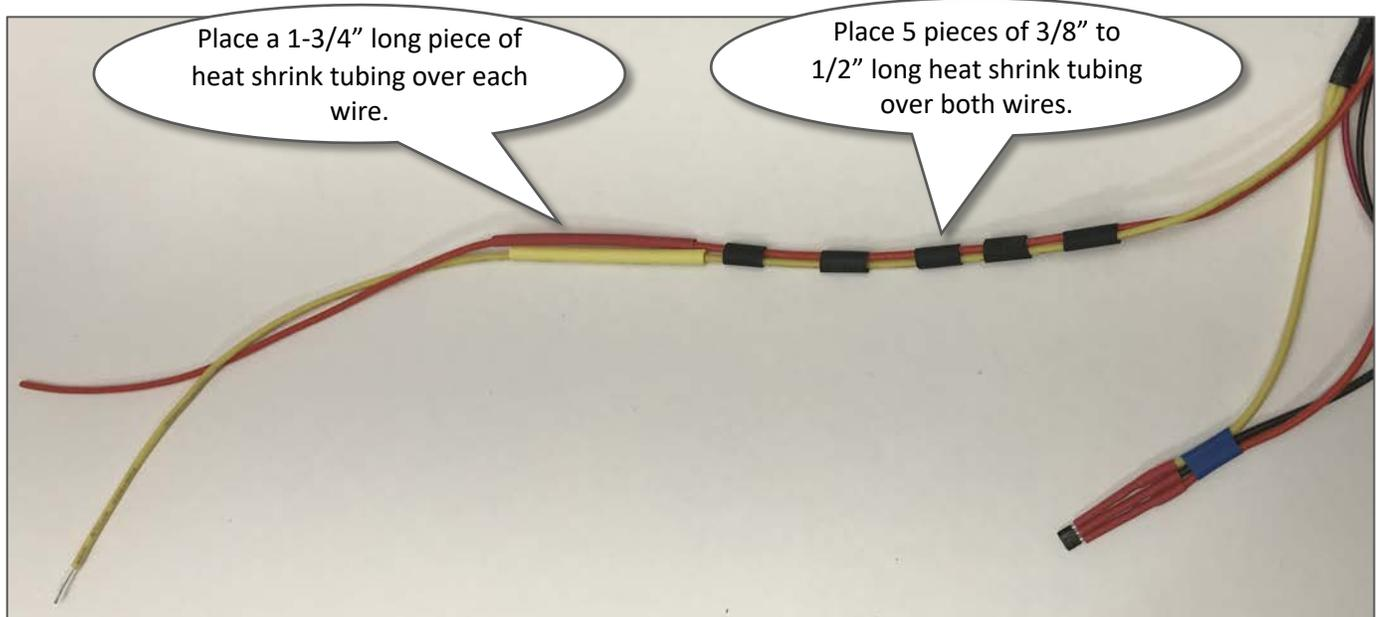

Figure 2.21
16. Install heat shrink tubing as shown in *Figure 2.21*. Do not shrink until soldering is complete.